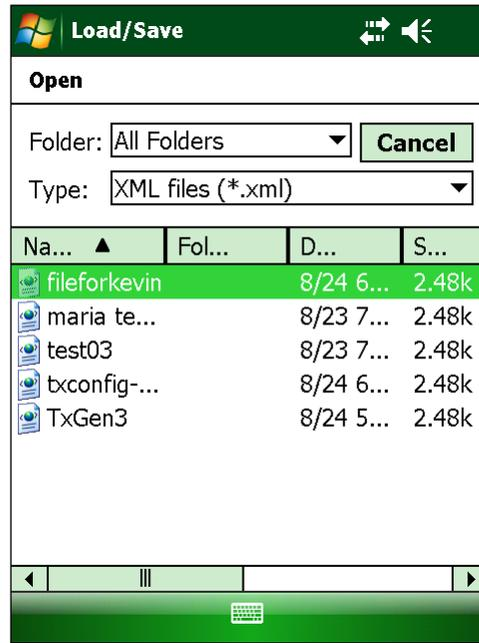

Figure 22: Load/Save Open Screen
2. In the Load/Save Open screen, tap on the desired file name from the list to load it (Figure 22).